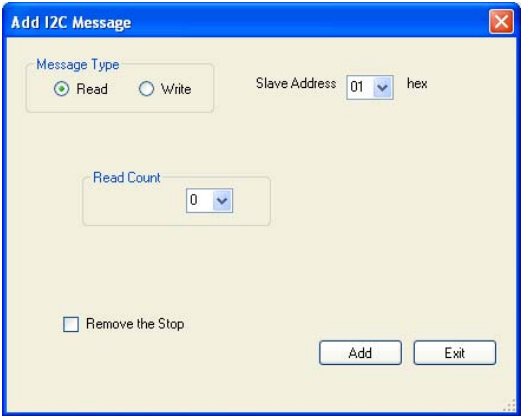

Figure 4. Add I2C Message Window
7. The Add I2C Message window is now displayed. (See Figure 4)